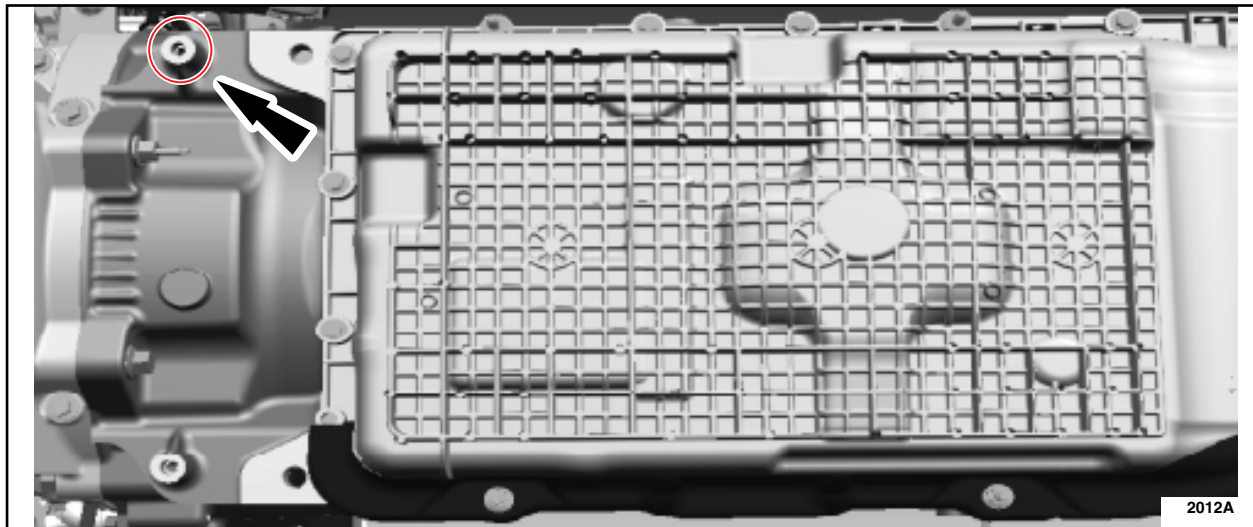

FIGURE 1
2. Install the M8x30 bolt. Torque to 25 Nm (18 lb-ft). See Figure 1.